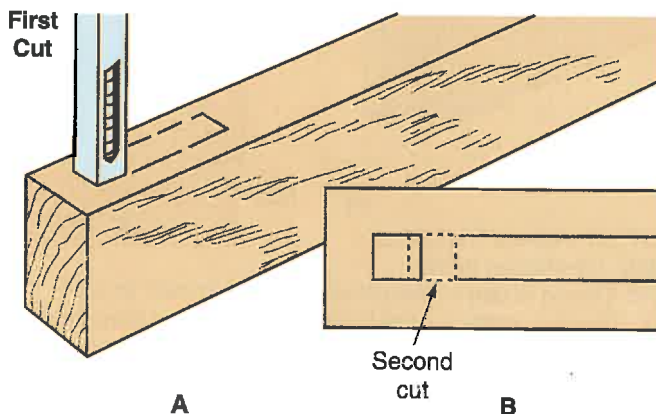

Figure 29-39. Successive mortising cuts. A—First cut. B—Lap slightly over the previous cut. (Delta International Machinery Corp.)
6. Drill the first square hole. Then move the workpiece about three-fourths the width of the chisel and drill another square hole. See Figure 29-39. Repeat this process until the mortise is complete.